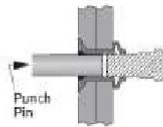

Figure 2
- (2) Chase the center rod if the drilling is not complete, see Figure 2.